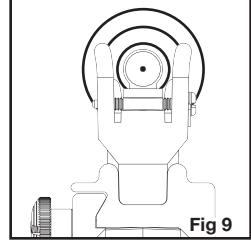

Fig 9
- The airgun is correctly aimed when the front sight blade is positioned exactly in the center of the aperture of the rear sight. The top of the front sight blade should be even with the top of the aperture in the rear sight. The bulls-eye should appear to rest on the top of the front sight. (Fig. 9)